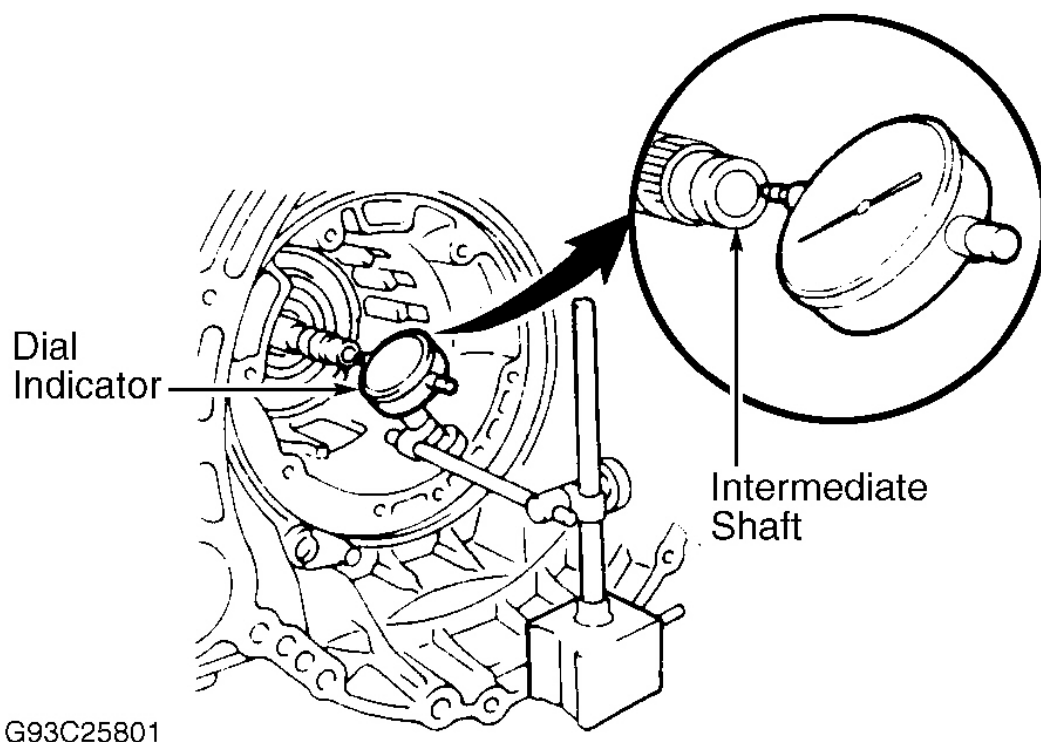

Fig. 67: Checking Intermediate Shaft End Play
4. Check intermediate shaft end play (axial). See **Fig. 67** . End play should be .019-.059" (.47-1.50 mm). Ensure shaft turns smoothly. If end play is not within specification, check installation of intermediate shaft.